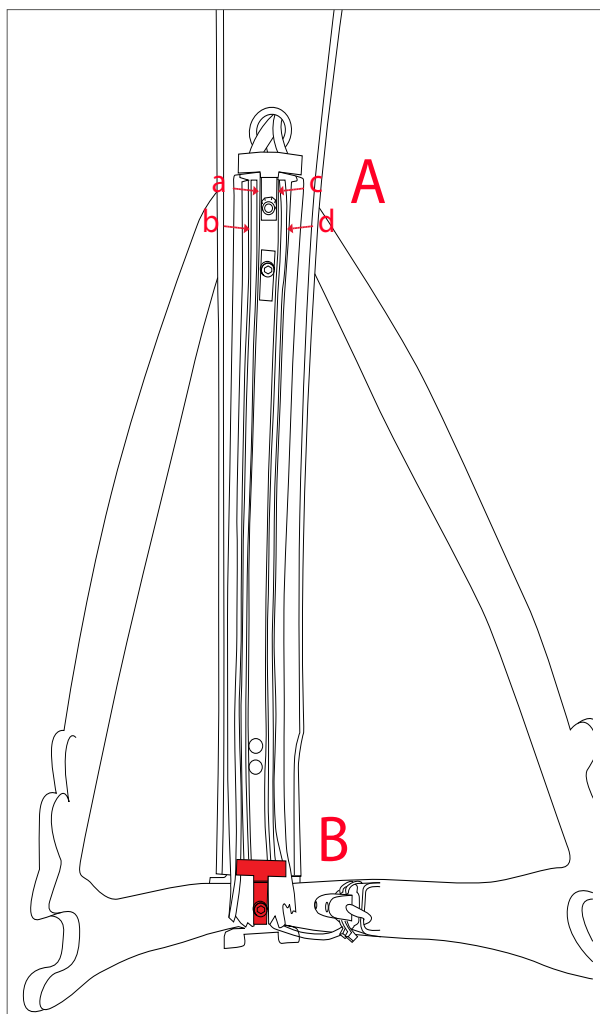

Figure 4.51 Location of "T" brackets
3. Mount the T-shaped bracket [B] at the end of the tunnel (Fig. 4.51).